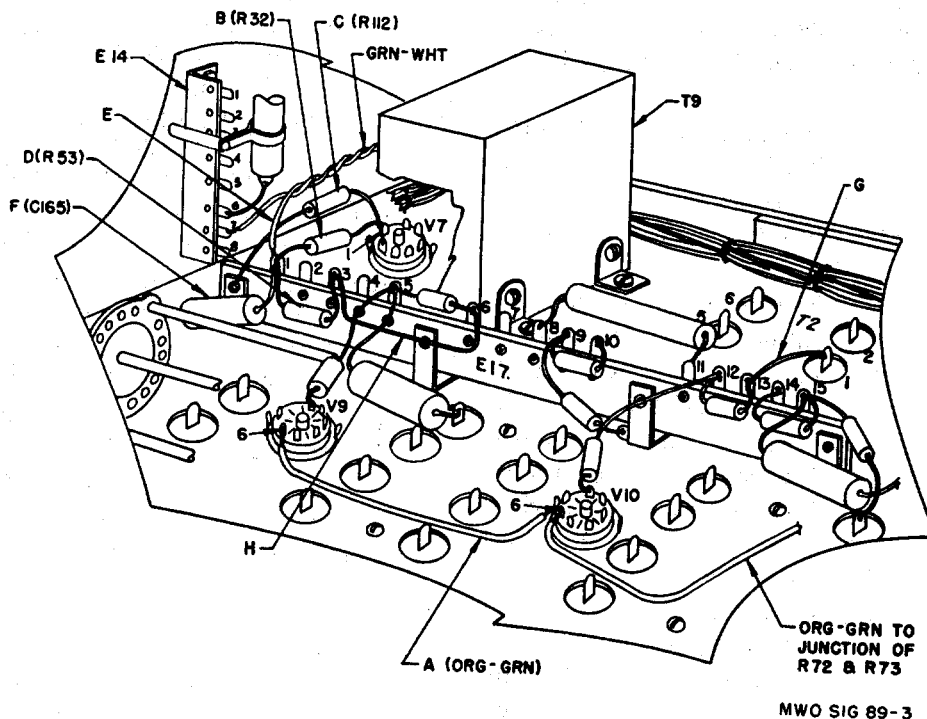

Figure 3. New component and wiring changes at terminal strip E17.
- (5) Unsolder and remove resistor R48 (33,000 ohms) connected between pin No. 6 of tube socket V9 and terminal No. 4 of terminal board E17.
- (6) Unsolder and remove resistor R53 (33,000 ohms) connected between pin No. 6 of tube socket V10 and terminal No. 11 of terminal board E17.
- (7) Connect and solder a suitable length of orange-green wire between pin No. 6 of tube socket V9 and Pin No. 6 of tube socket V10 as shown at A, figure 3.
No. 1 of socket V7 and terminal No. 1 of terminal board E17 (B, fig. 3).
(2) In some receivers, pin No. 7 of V7 is ground. Remove the ground leads, and connect and solder a 390-ohm resistor (R112) between pin No. 7 of V7 and the ground terminal of E17 (C, fig. 3).
(3) Connect and solder a 10,000-ohm resistor (R53) between terminals No. 1 and No. 3 of terminal board E17 as shown at D in figure 3, where this resistor does not already exist or is of a value other than 10,000 ohms.
(4) Unsolder and remove the green-white wire from terminal No. 8 (ground lug) of terminal board E14, and connect and solder this lead to terminal No. 1 of terminal board E17 (E, fig. 3).
(5) Connect and solder a .01- μ f, 500-volt capacitor C165 between terminal No. 1 of terminal board E17 (F, fig. 3) and ground, where this capacitor does not already exist as C100 in this position.
(6) Unsolder and remove the white-blue lead connected to terminal No. 1 of transformer T2, and tape the exposed end. Tape this lead to the main wiring cable.
(7) Connect and solder a suitable length of white-black wire between terminal No. 1 of transformer T2 and terminal No. 13 of terminal strip E17, as shown at G in figure 3.
(1) Examine terminal strip E17 for a jumper between terminals No. 3 and 9. Where this jumper exists, remove it.
(2) Connect and solder a suitable length of white-black wire between terminals No. 3 and 6 of terminal strip E17 (H, fig. 3) where this lead is not connected in this position.